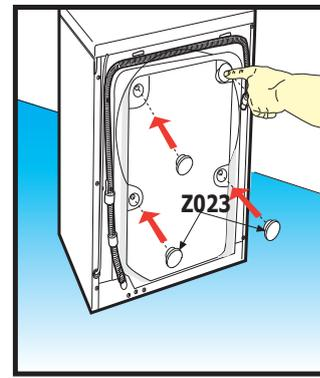

Fig. 2
- Close the 4 packing screw holes using the 4 plugs **Z023**, which are provided in the bag with the documents (see Fig. 2).